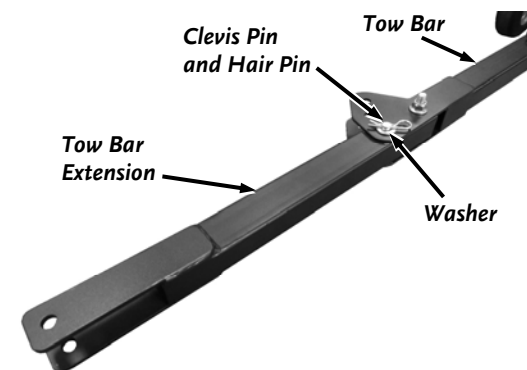

Figure 5
3. Align the Tow Bar Extension with the Tow Bar and install a Clevis Pin, Washer, and Hair Pin in the Tow Bar to lock the Tow Bar Extension in place (Figure 5).